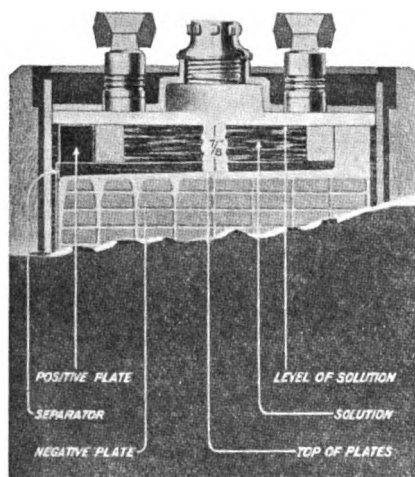

FIGURE 1—CUT SHOWING HEIGHT TO FILL THE CELL WITH PURE WATER.
Remove the vent caps from the cells and determine the height of the solution in each cell, which should be the height shown in Figure 1. If this is the case there is no indication of a leaky jar.
**RIVETING AND CALKING** FIG. 1. THE PUNCHING MACHINE MAKES A CONE SHAPED RIVET HOLE IN THE PLATE. FIG. 2. A SWELL NECK RIVET IN PLACE. FIG. 3. CALKING JOINTS AND RIVETING.